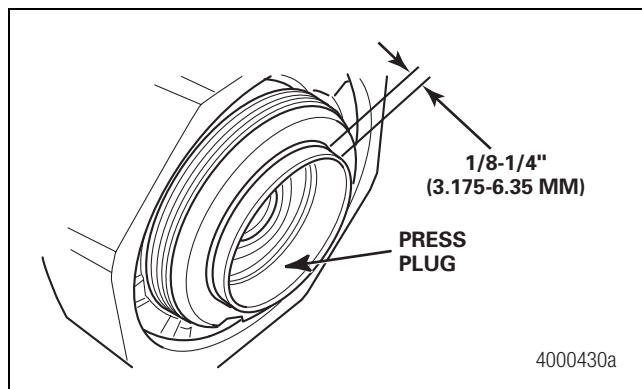

Figure 2.23
17. Check that the press plug protrudes from 1/8-1/4-inch (3.175-6.35 mm) from the end of the spindle. Figure 2.23.